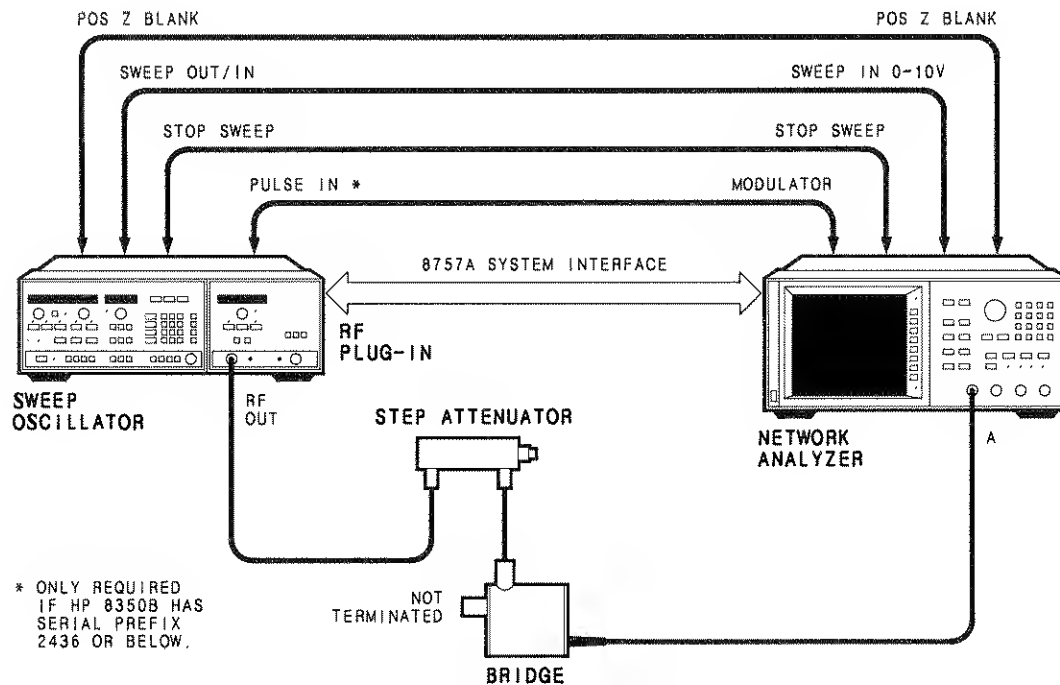

Figure 4-5. Dynamic Power Accuracy Performance Test Setup
Using the setup illustrated in Figure 4-5 to measure the dynamic power accuracy of the HP 85027.
1. Set up the equipment as shown in Figure 4-5, preset the instruments and allow 30 minutes for warm-up.